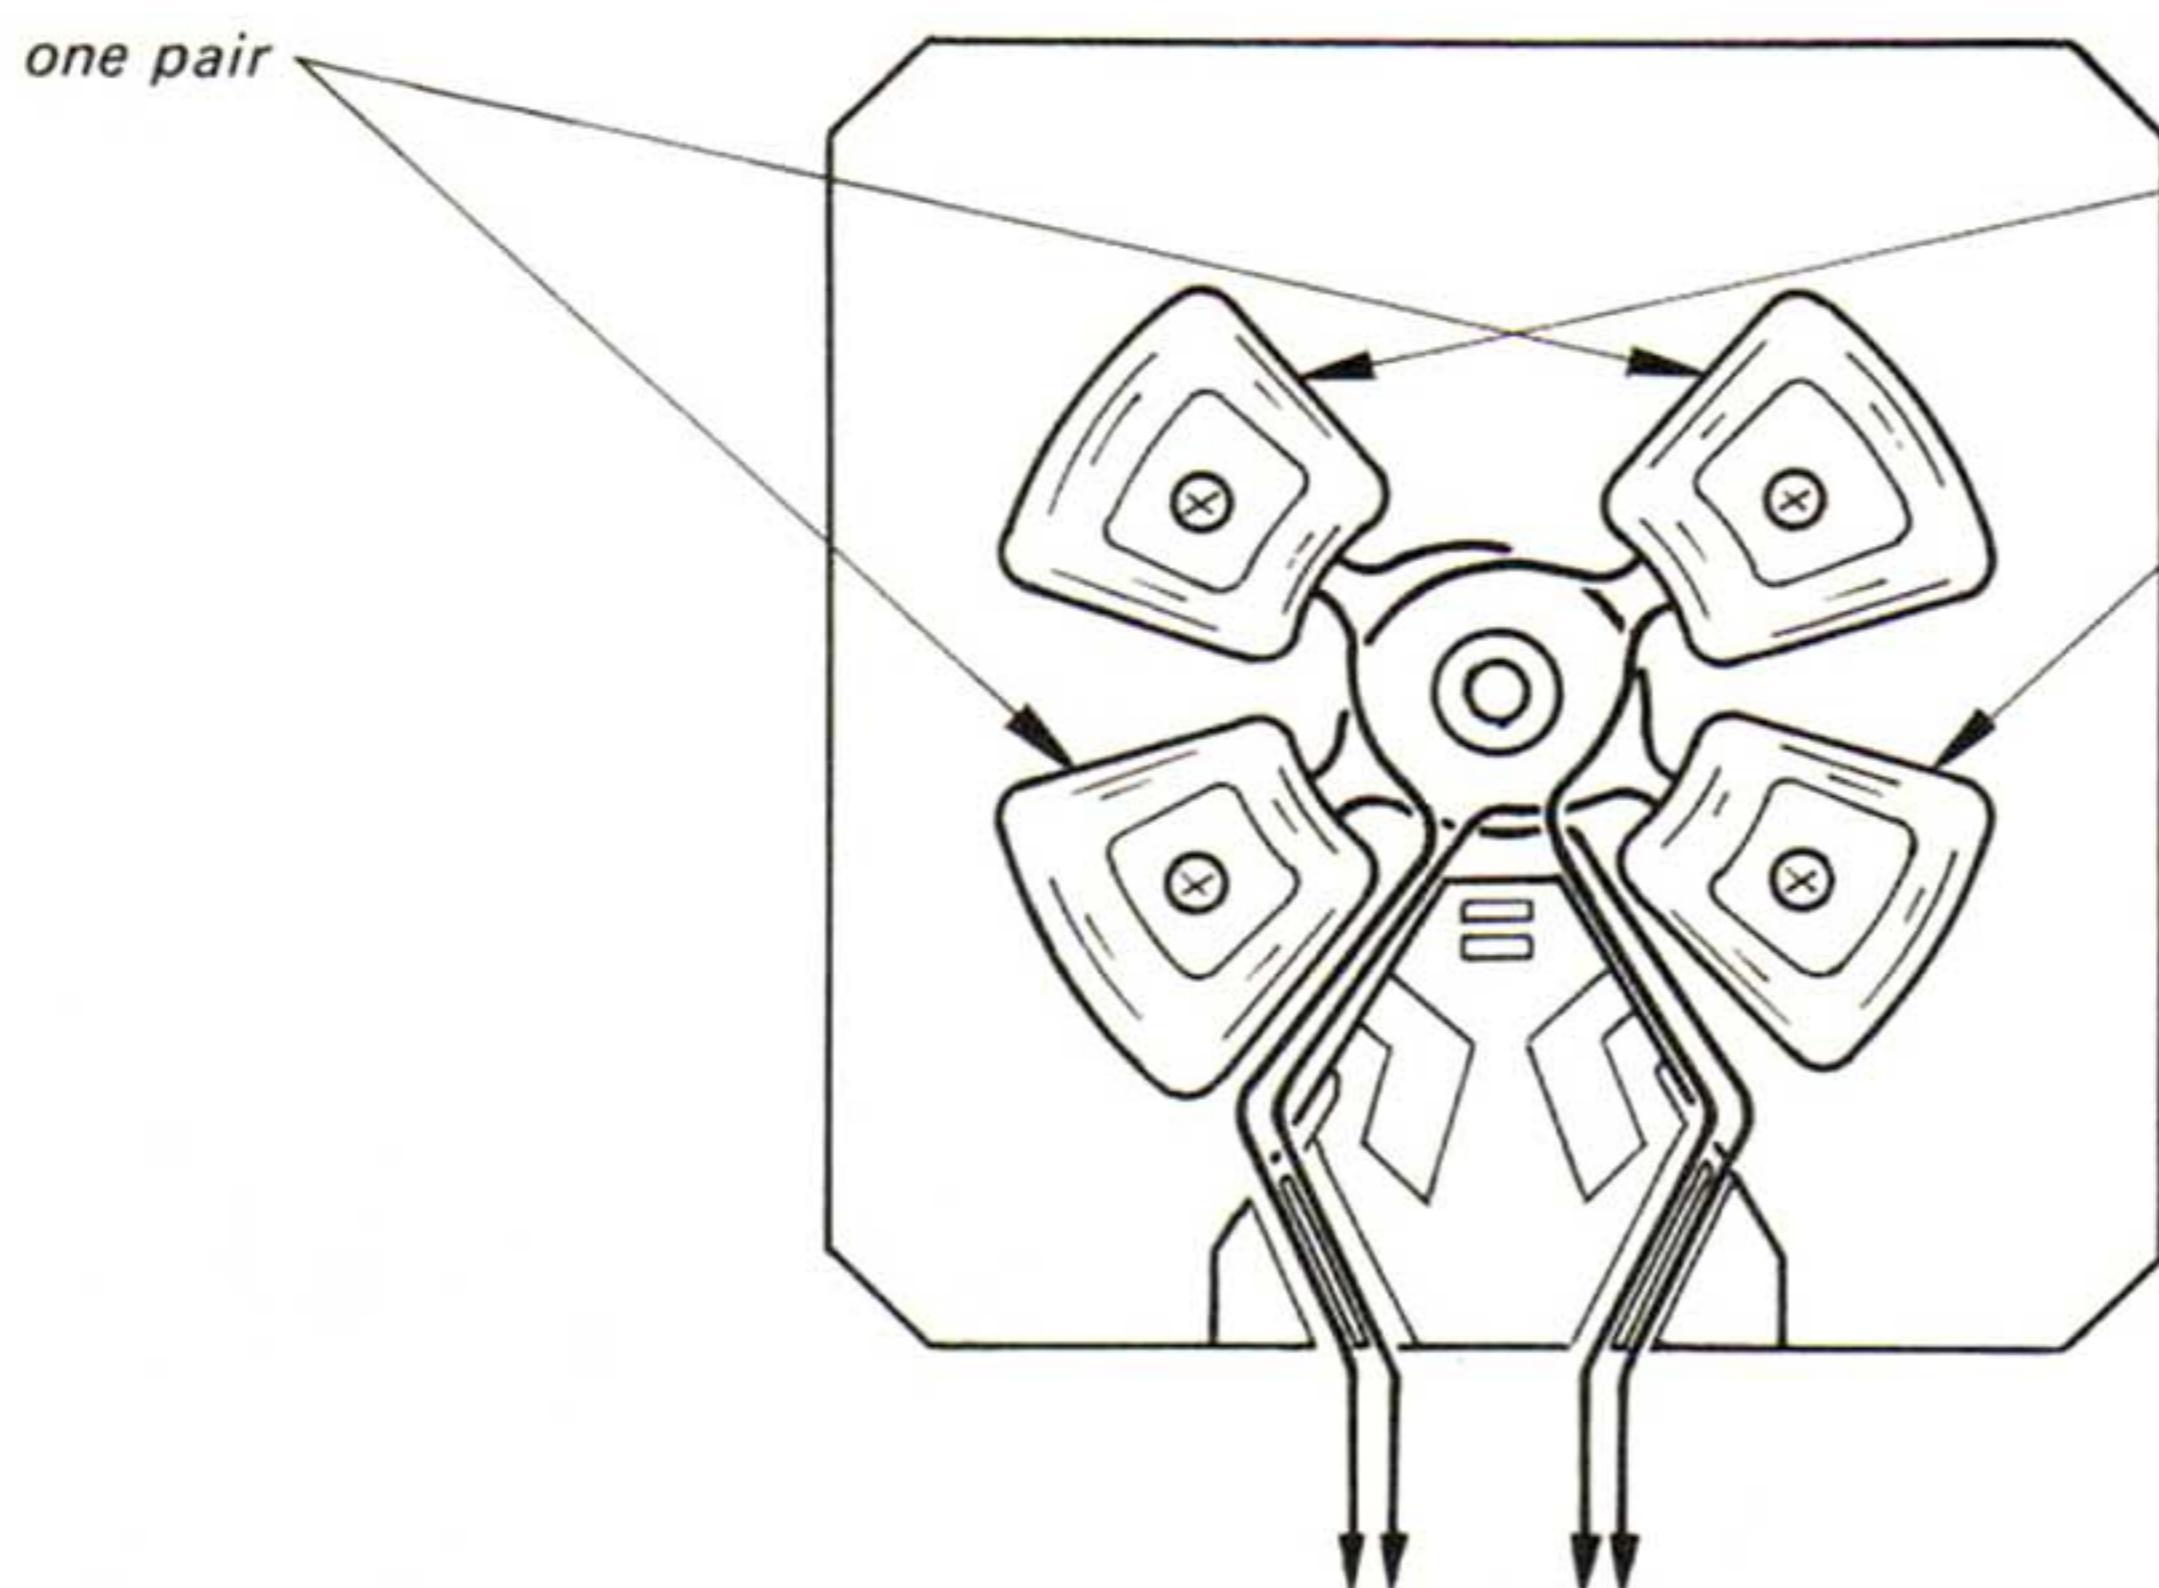
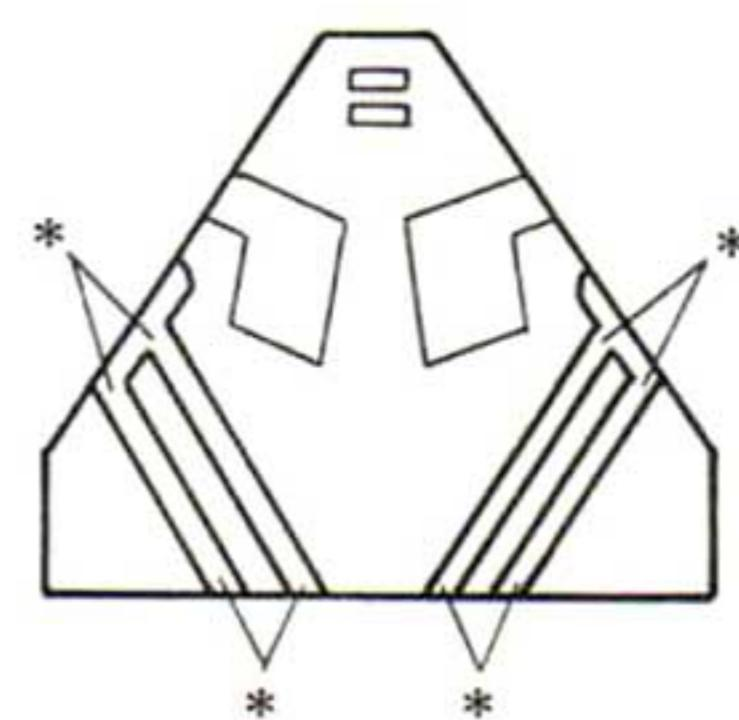

Fig. 5-4
Fig. 5-5
- c. Lay the leads of the coils as shown in Fig. 5-4 and fix the leads in the slot between the portions marked by * in Fig. 5-5.